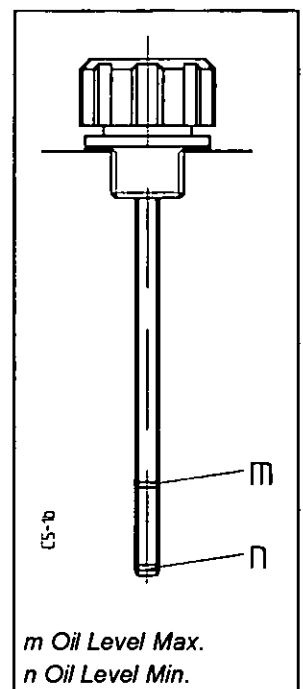

Fig. 5.2: Oil Dipstick
- Shut off the motor (A).
- Unscrew the oil dipstick (1) and wipe off the oil.
- Screw in the oil dipstick (1) and unscrew it again.
- The oil level should be between max. and min. (see Fig. 5.2).